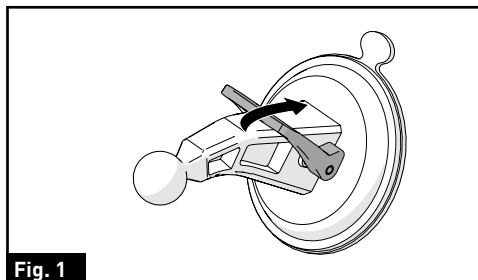

Fig. 1
3. Carefully position the suction cup on the windshield and rotate the locking arm downwards to affix securely. (Fig. 1)